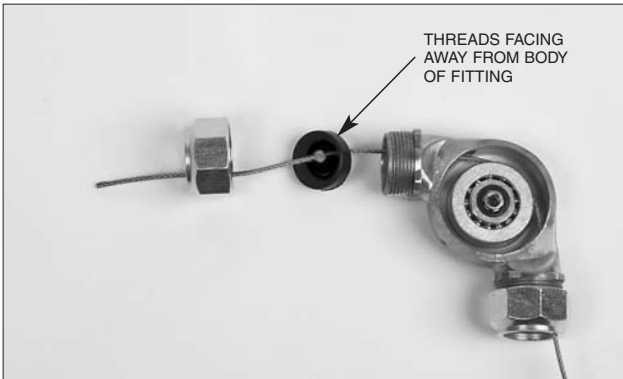

Figure 4-49.
2. Thread the stainless steel wire rope through the EMT conduit connector and flexible conduit insert. Make certain thread in flexible conduit insert is facing out toward end of connector. See **Figure 4-49**.